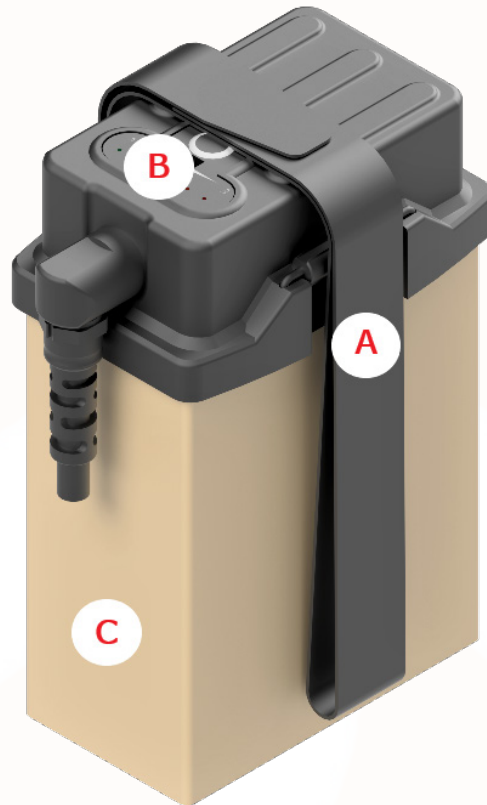

Figure 49: Spectre TSB
2. Loosen the battery strap but do not remove it (**Figure 49, A**).
3. Remove the battery charging cap (**Figure 49, B**).
4. Pull straight up on the battery (**Figure 49, C**) to remove it from the housing.